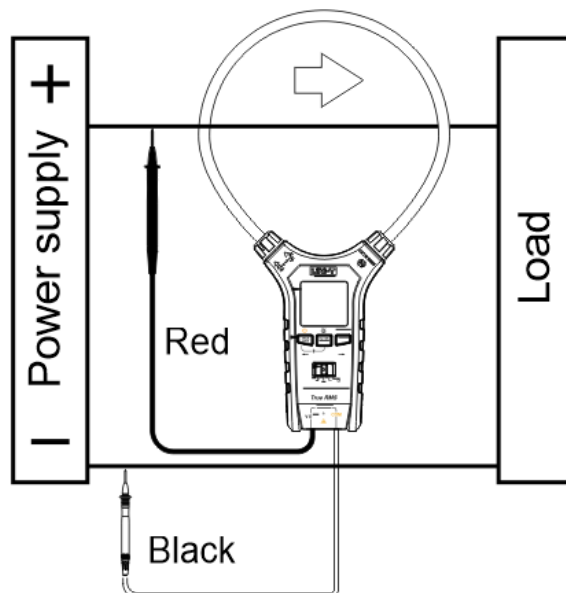

Figure 6
**4. Power measurement (Figure 6)**